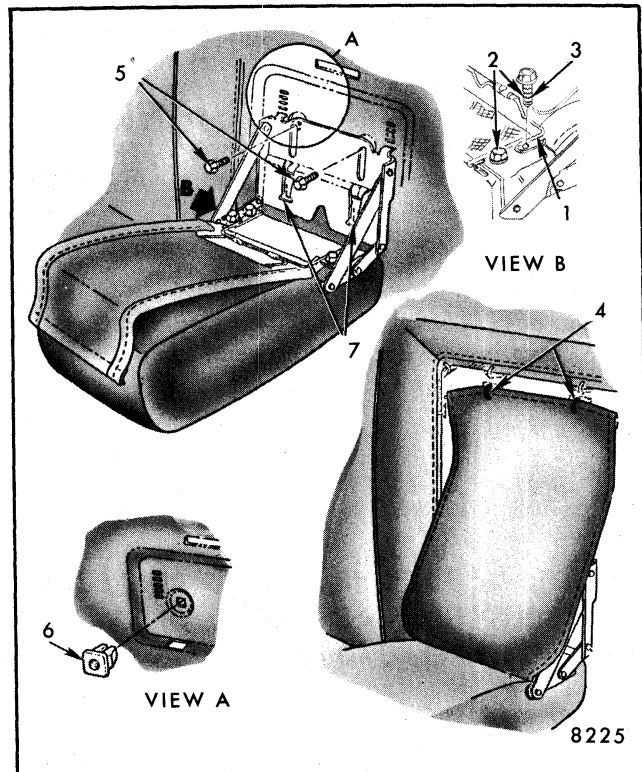

Fig. 9-58-Front Seat Back Center Armrest - Front Seat with Standard Full Width Seat Back
2. To remove armrest curtain, pull curtain forward as far as possible; then remove armrest-to-linkage front attaching screw (see Fig. 9-58) from both sides of armrest. Lift up lower portion of armrest sufficiently to gain access to and remove hog rings securing upper end of curtain; then remove armrest-to-linkage attaching.
3. To remove armrest, less linkage and curtain, pull curtain forward as far as possible; then remove armrest-to-linkage screws from both sides of armrest and remove armrest (Fig. 9-58).
detach lower end of curtain from armrest as described in step 1. Remove linkage attaching screws (see "5" in Fig. 9-58); then disengage upper tabs of linkage from armrest support and lift armrest and linkage assembly upward to disengage lower tabs from slots in support and remove assembly from seat.